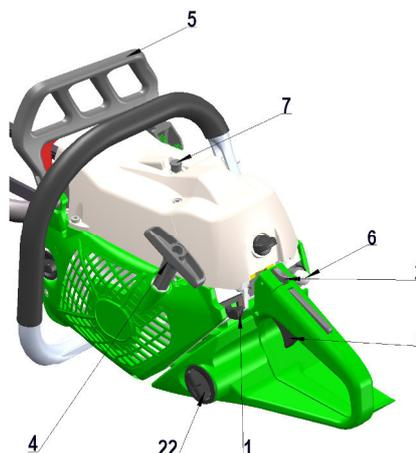

Figure 4
- Slowly pull the handle (4) (fig. 4) until you feel a little resistance. Now pull the handle fast and hard. Repeat this action until the motor makes several starting noises.
- Set the switch (1) into the central position (B) and pull the start cord a few times until the motor starts (only when the motor is cold).